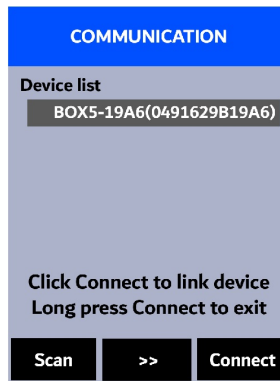

Figure 22.
5. Discoverable devices will begin to populate on the display with their name and MAC-Address (Figure 22).